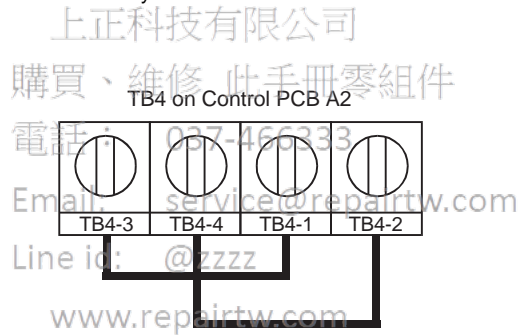

Fig 2.10 RS-485 Communication Connection
3. When using RS-485 communication, connect TB4-1 to TB4-3, and TB4-2 to TB4-4, on the control circuit terminal board. See Fig 2.10 below.